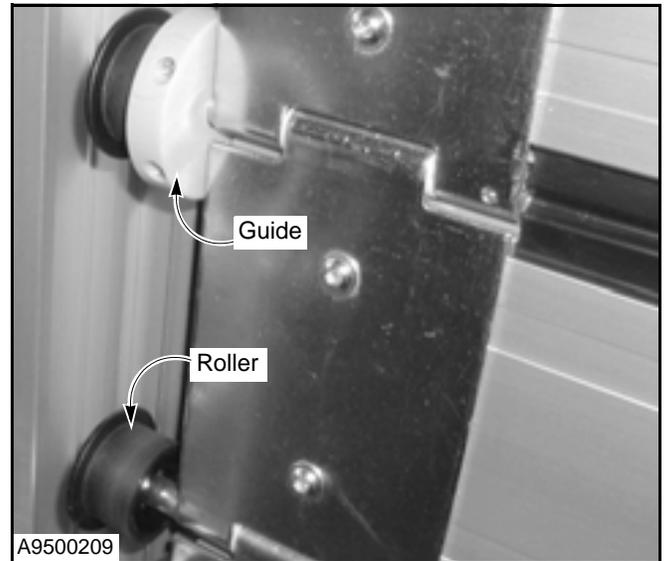

Figure 31
6. Inspect for damaged or worn rollers and guides. Replace as needed. (See Figure 31.)